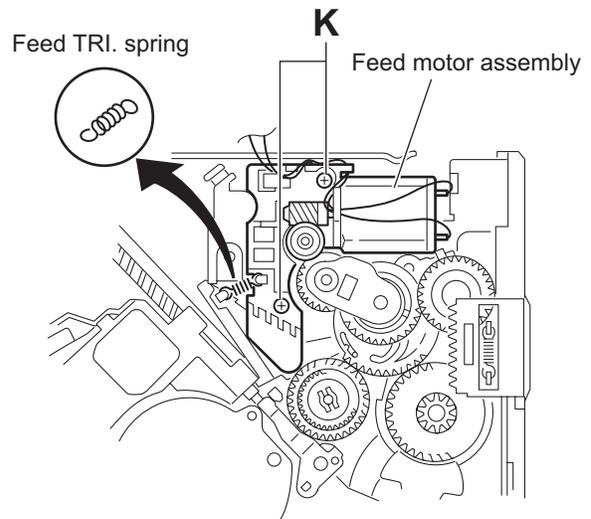

Fig.21
### 3.4.11 Removing the feed motor assembly (See Figs.21 and 22)
- (1) Remove the feed TRI. spring on the bottom of the body. (See Fig.21.)
- (2) Remove the two screws **K** attaching the feed motor assembly. (See Fig.21.)